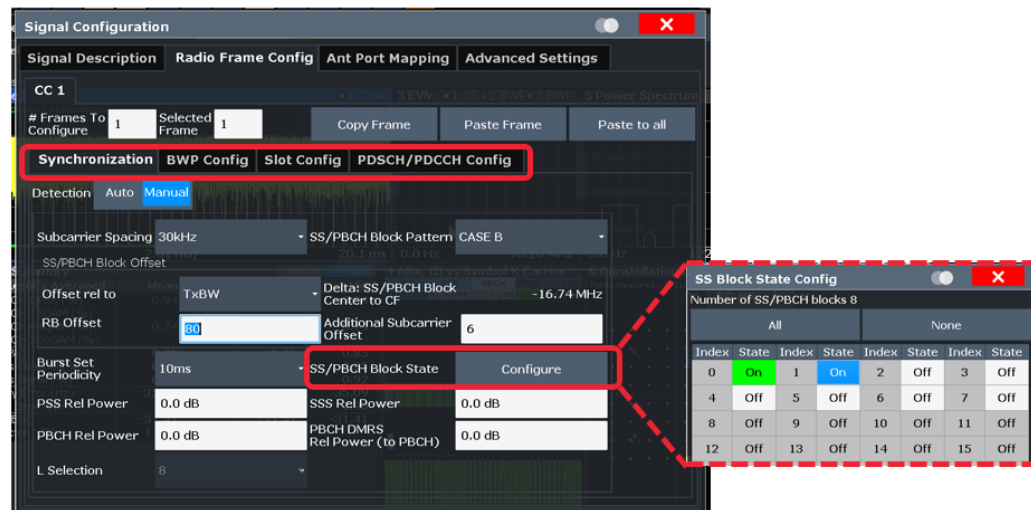

Fig. 2-11: Radio Frame Configuration window in the 5G NR mode on the FSW
- i From the Radio Frame Config window, the sub categories (shown in Fig. 2-11) need to be configured
- SS /PBCH Block State: Configuration shown in Fig. 2-11